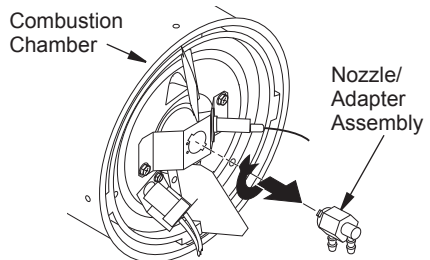

Figure 16 - Removing Nozzle/Adapter Assembly
4. Turn nozzle assembly counterclockwise and pull toward motor to remove (see Figure 16).
10. Attach nozzle assembly to burner strap (see Figure 16).